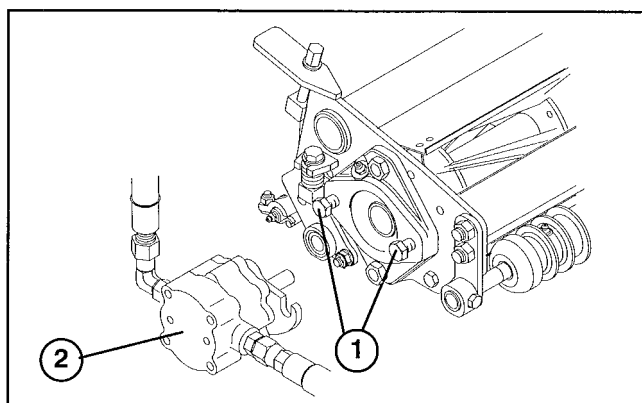

Figure 13
- Assemble the mounting capscrews for the reel drive motor to each cutting unit. Leave approximately 1/2 in. of threads exposed on each mounting capscrew (Fig. 13).
- Coat the spline shaft of the motor with clean grease and install the motor by rotating the motor clockwise so the motor flanges clear the studs. Rotate the motor counter-clockwise until the flanges are encircling the studs and tighten the mounting capscrews (Fig. 13).